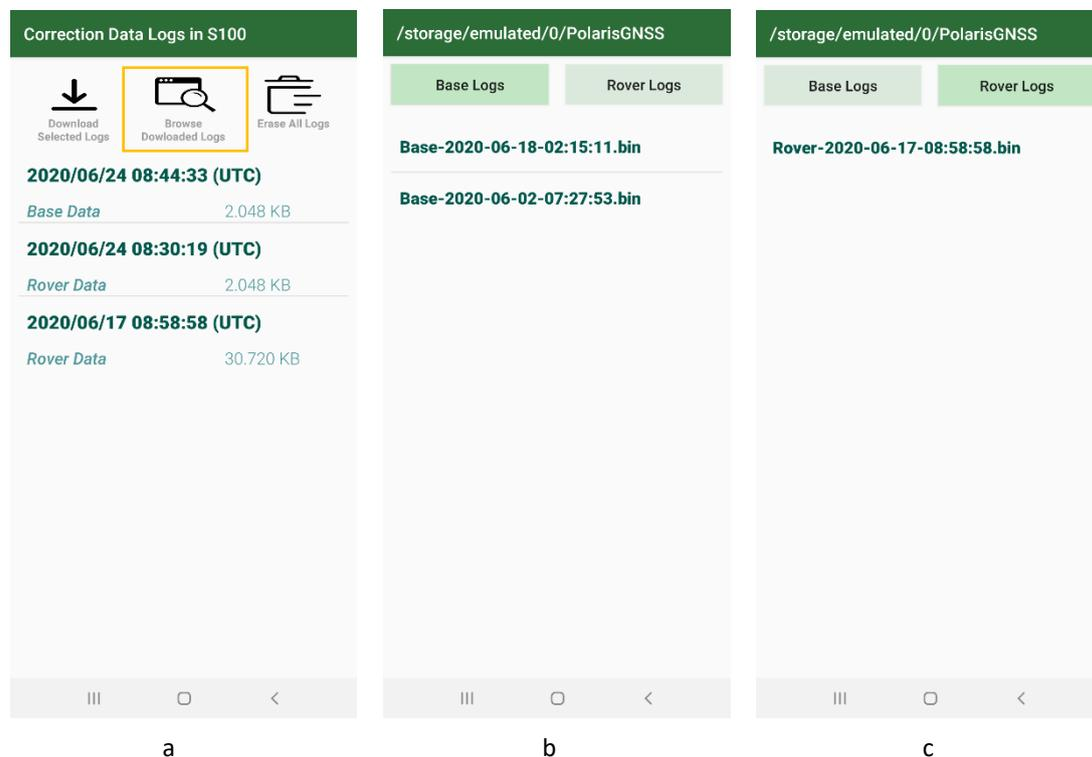

Figure 7-7
1. Click “Browse Downloaded Logs”. See Figure 7-7 a.
2. The downloaded raw measurement base data is then displayed. See Figure 7-7 b.
3. Click “Rover Logs” to check rover raw measurement data. See Figure 7-7 c.